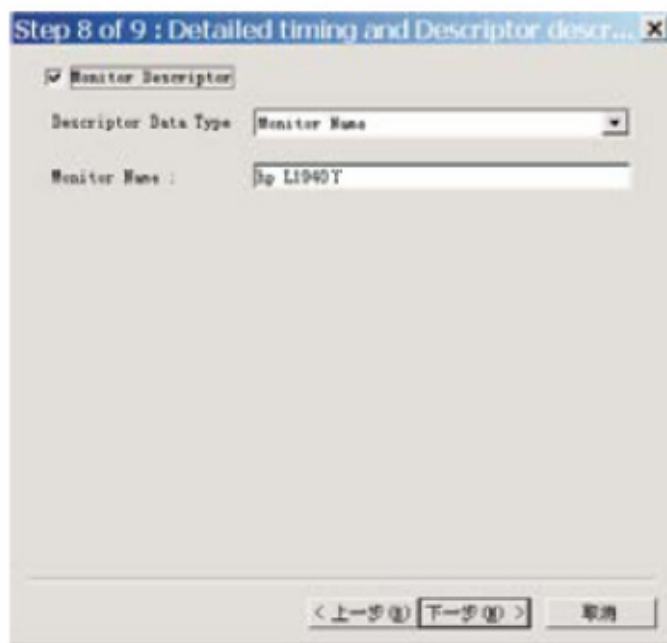

Fig. 38
7. Click Next , bring up Fig. 38.